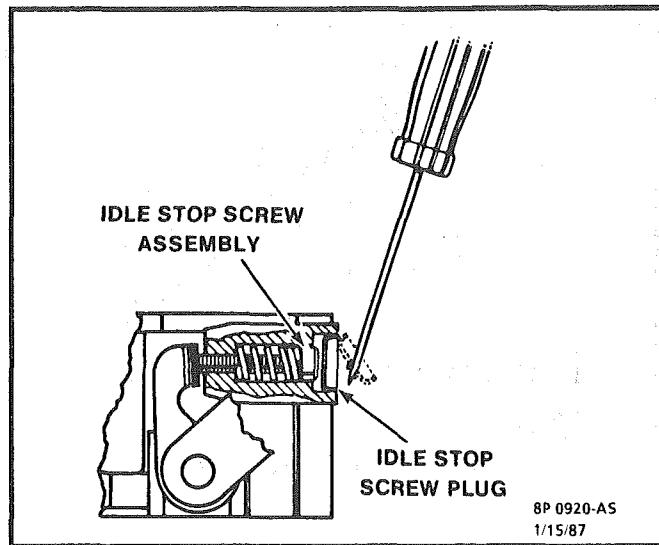

Figure C2-17 - Removing Idle Stop Screw Plug
2. If present, remove idle stop screw plug by piercing it with an awl, then applying leverage (Figure C2-17).